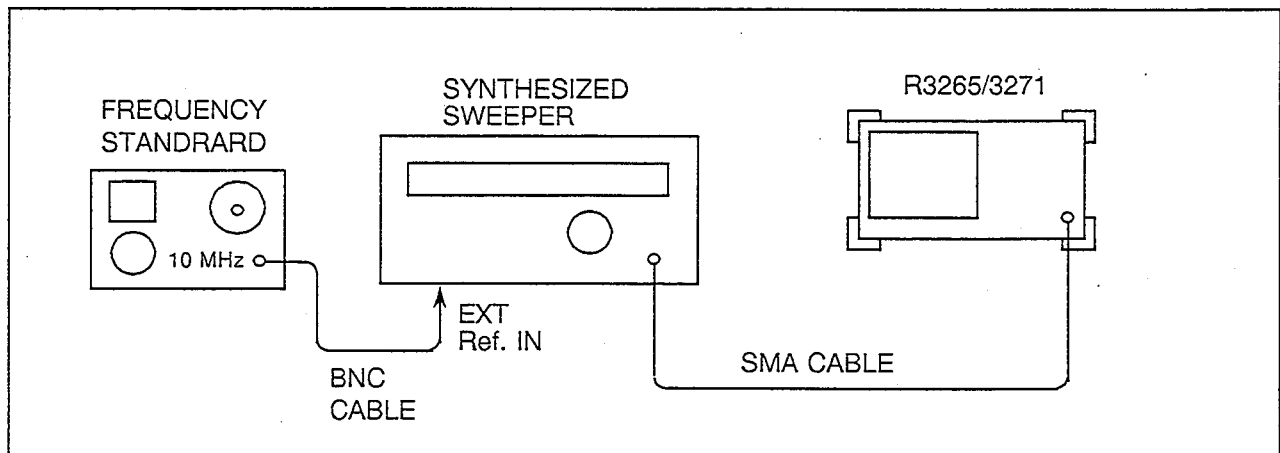

Figure 4-1 Frequency Readout and Frequency Counter Marker Accuracy Test Setup
- (1) Connect the equipment as shown in Figure 4-1